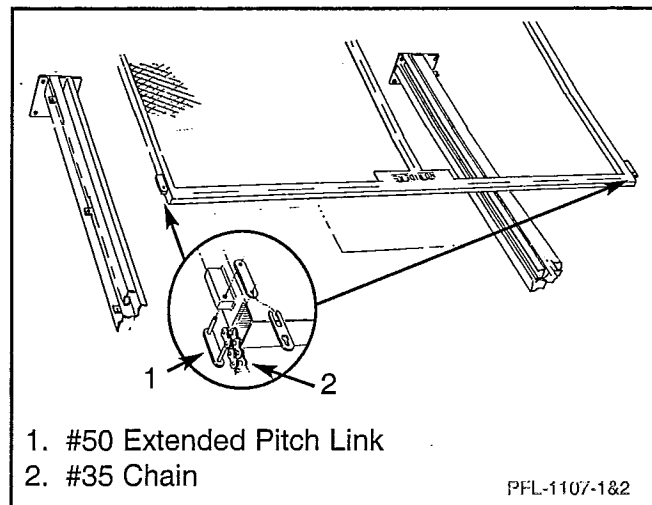
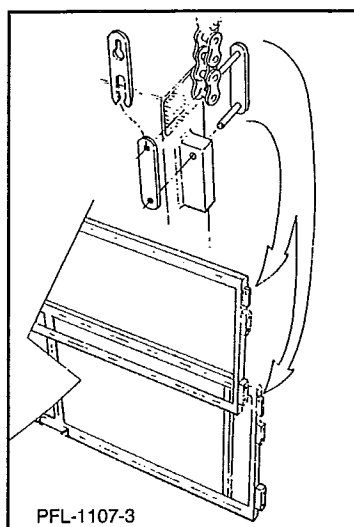

Figure 10
Figure 11
4. Remove the #50 master links from the #35 chain sticking out of each gate post and thread the chain over the sprockets on the header. See Figure 10.
6. Slide the panel up to the header and re-connect the master links removed in Step #4 (Figure 10). Make sure that the length of chain on each side is equal. See Figure 11.